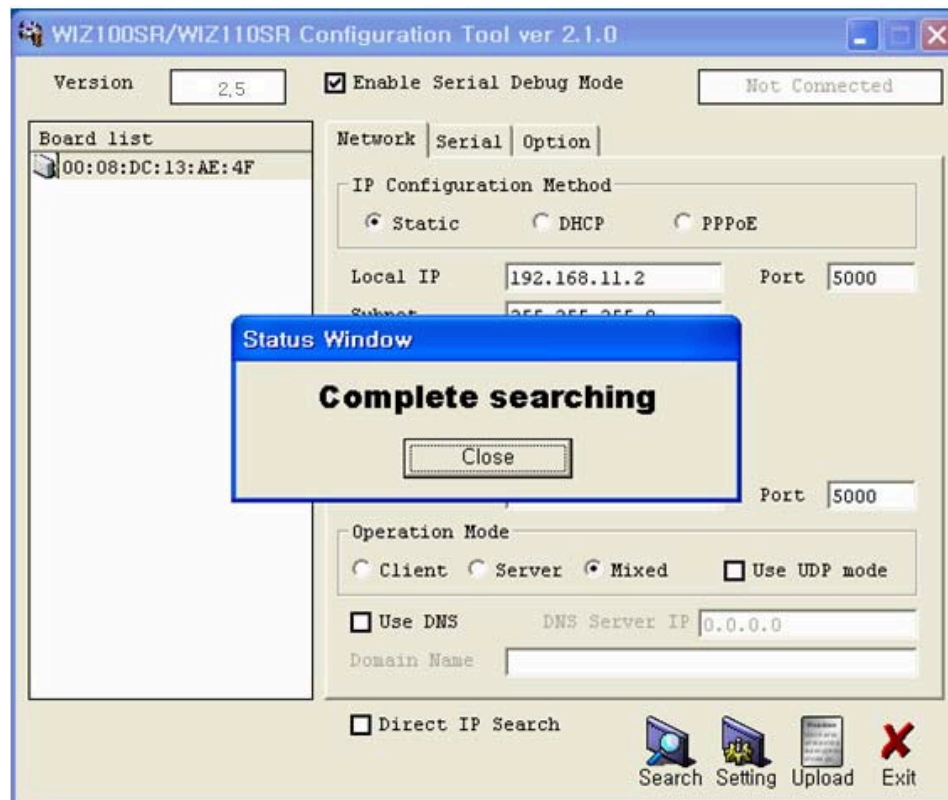

Figure 11. Board Search Window
- ① Run 'WIZ100SR/WIZ110SR Configuration Tool' program, and click "Search" button.
- ② If the module is properly connected to the network, "Searching Complete" message and MAC address will be displayed on the "Board List" as shown in Figure.11.